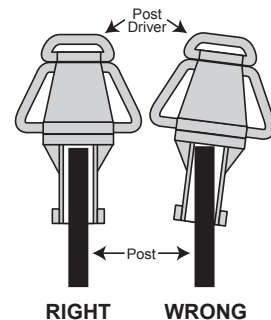

Fig. 6 - Proper alignment of driver and post.
4. Place the driver on the post to be driven. Position the driver (**Fig. 6**) aligned centered to the post. If not aligned properly, damage could be caused to the driver or the post. Slowly squeeze the air throttle valve lever to start the driver. Opening the throttle valve slowly will prevent a violent start of the driver. Never tape, wire, etc., the throttle valve lever open.